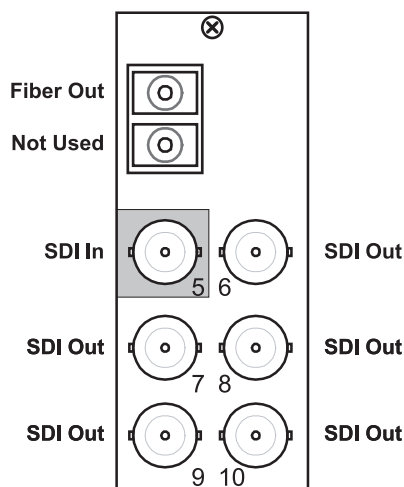

Figure 2.4 Cable Connections for the **8320AR-044** Rear Module
- **8320AR-044** Full Rear Module (R2-6602) — Each card occupies two slots and provides an optical output, an SDI input, and five SDI outputs. Refer to **Figure 2.4**.